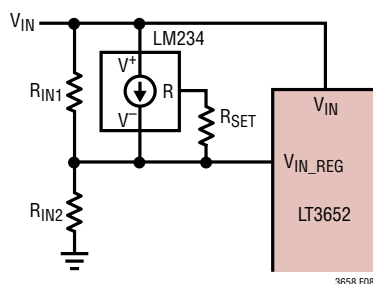

Figure 8. MPPT Temperature Compensation Network
In the circuit shown in figure 8,
As the temperature coefficient for  $V_{MP}$  is similar to that of  $V_{OC}$ , the specified temperature coefficient for  $V_{OC}$  (TC) of  $-78mV/^\circ C$  and the specified peak power voltage ( $V_{MP(25^\circ C)}$ ) of 17.6V can be inserted into the equations to calculate the appropriate resistor values for the temperature compensation network in Figure 8. With  $R_{SET}$  equal to  $1000\Omega$ , then: